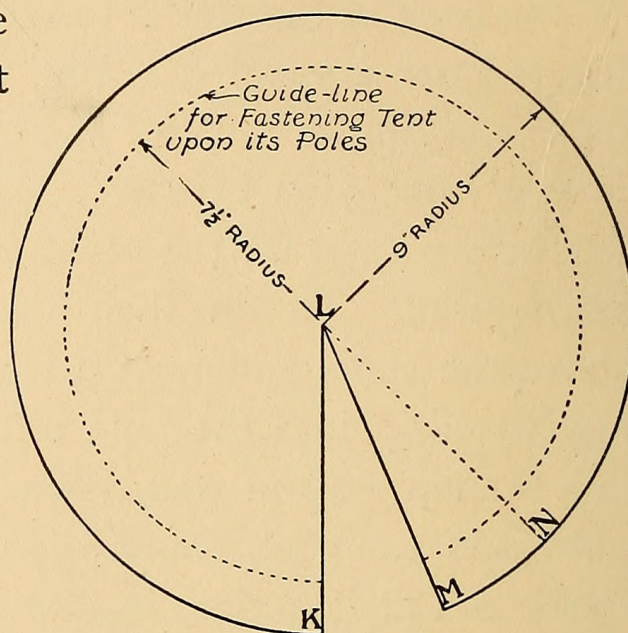

FIG. 259. — Pattern for Tent of Merry-go-round.
**The Tent** should be laid out upon heavy white paper as shown in Fig. 259. After describing a circle with a radius of 9 inches, describe another circle within it